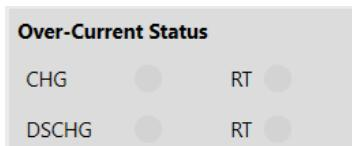

Figure 34: Over-Current Status Monitor
29. Figure 34 shows the OC status monitor.